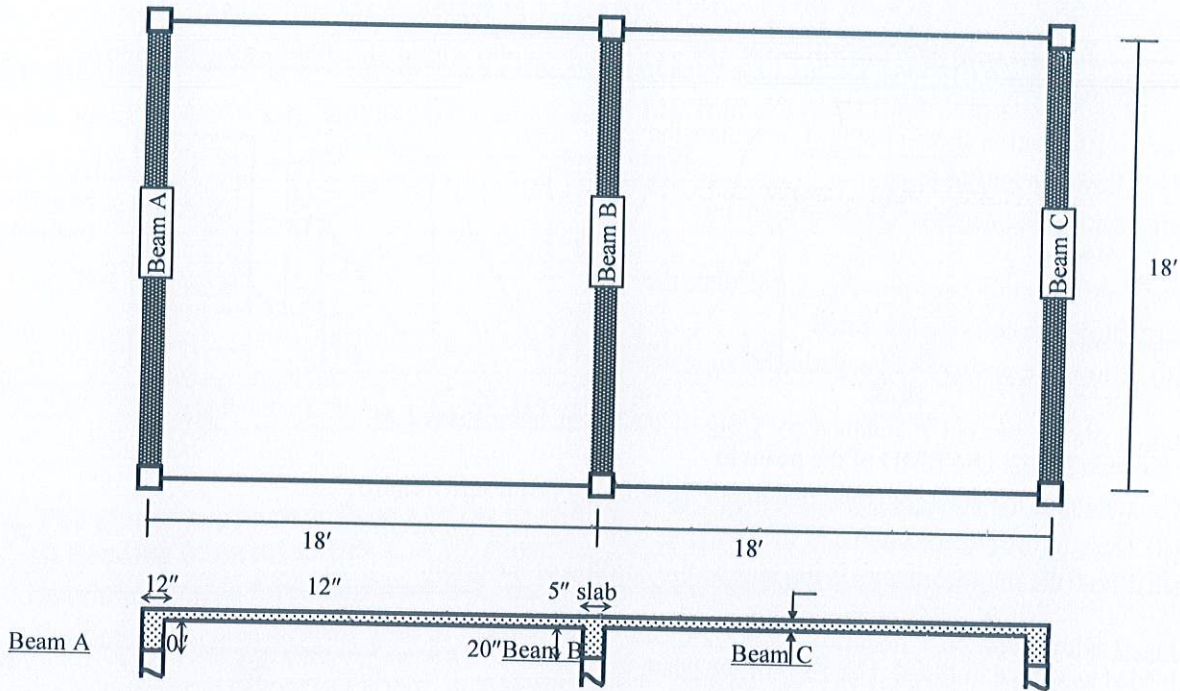

Fig. 4
7. Fig. 4 shows the plan view of a slab-beam system. Use the USD to calculate the
8. Fig. 4 shows the floor plan of a 5"-thick RC slab. In addition to the slab self-weight, floor loads also include working floor finish = 30 psf and random wall = 60 psf.
- Calculate the allowable bending moment (using WSD) for this slab thickness and the corresponding allowable live load (LL) on the slab.